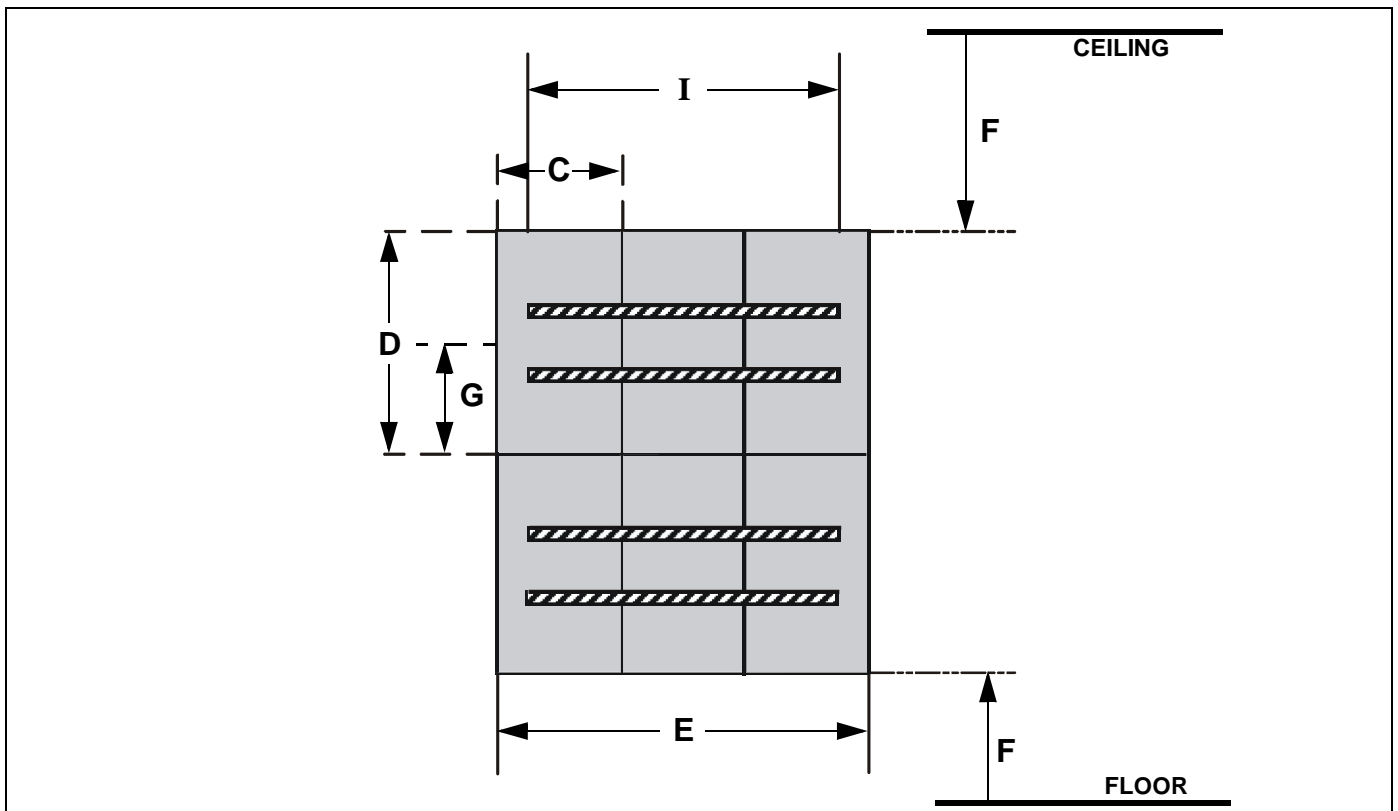
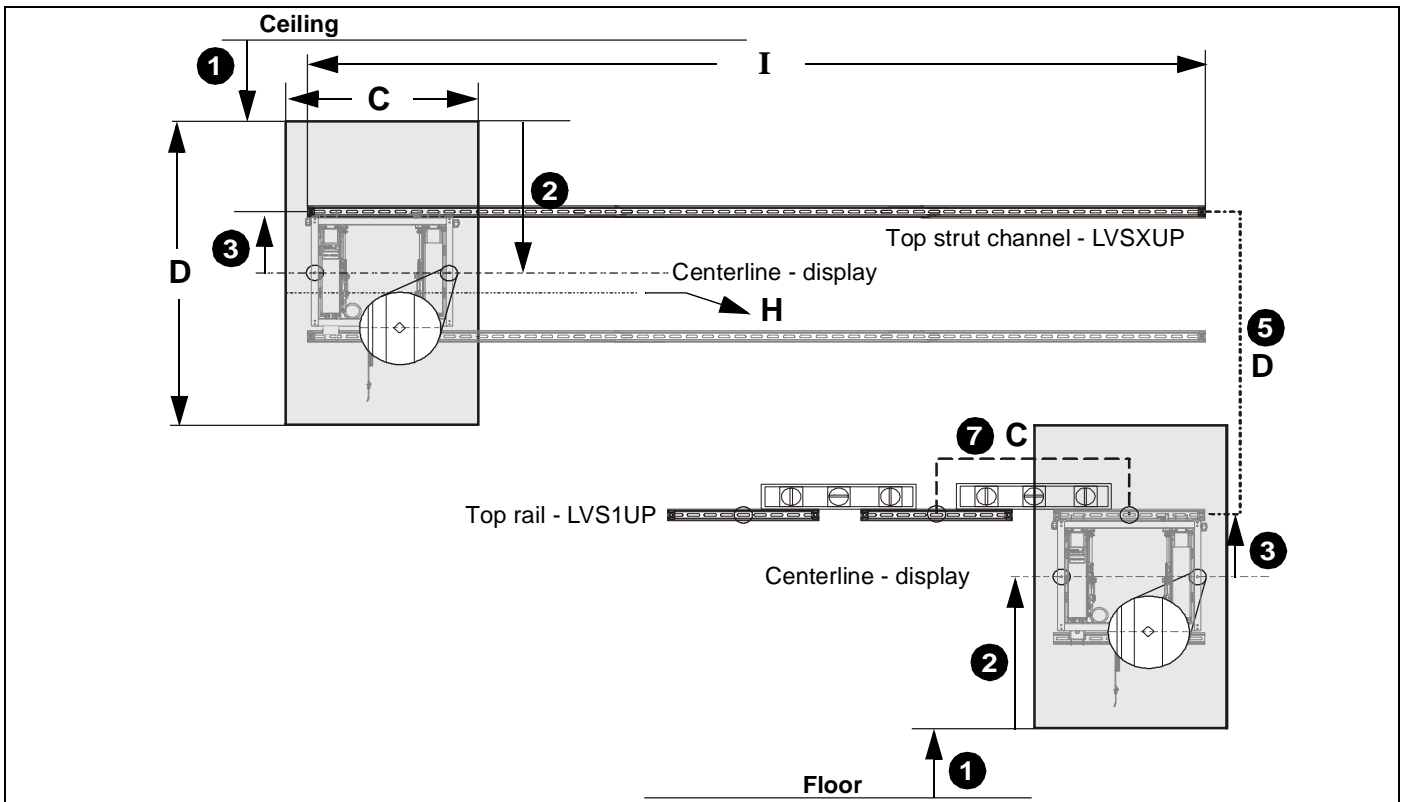

Figure 1
Figure 5
1. Mark distance **(F)** from floor to desired location for **bottom** of display **OR** from ceiling to desired location for **top** of display (if installing top row first). (See Figure 1) and (See Figure 5)
2. Mark distance **(G)** from bottom of display (or top of display) to center line of display. (See Figure 1) and (See Figure 5)
4. Level and attach strut channel/rail (V) using the provided hardware. See **Parts** drawing, (See Figure 5) and (See Table 2).
8. **(LVS1UP only)** Measure over **(C)** (width of display) from center of first installed rail, level and mark location of adjacent rail. (See Figure 1) and (See Figure 5)
10. Attach upper rails (V) using **Fastener Information**. (See Table 2)
11. Measure up from attached rails the distance **(D)** and mark for next row of rails (V). (See Figure 1) and (See Figure 5)
13. Repeat Step 11 for any remaining rows of rails (V).